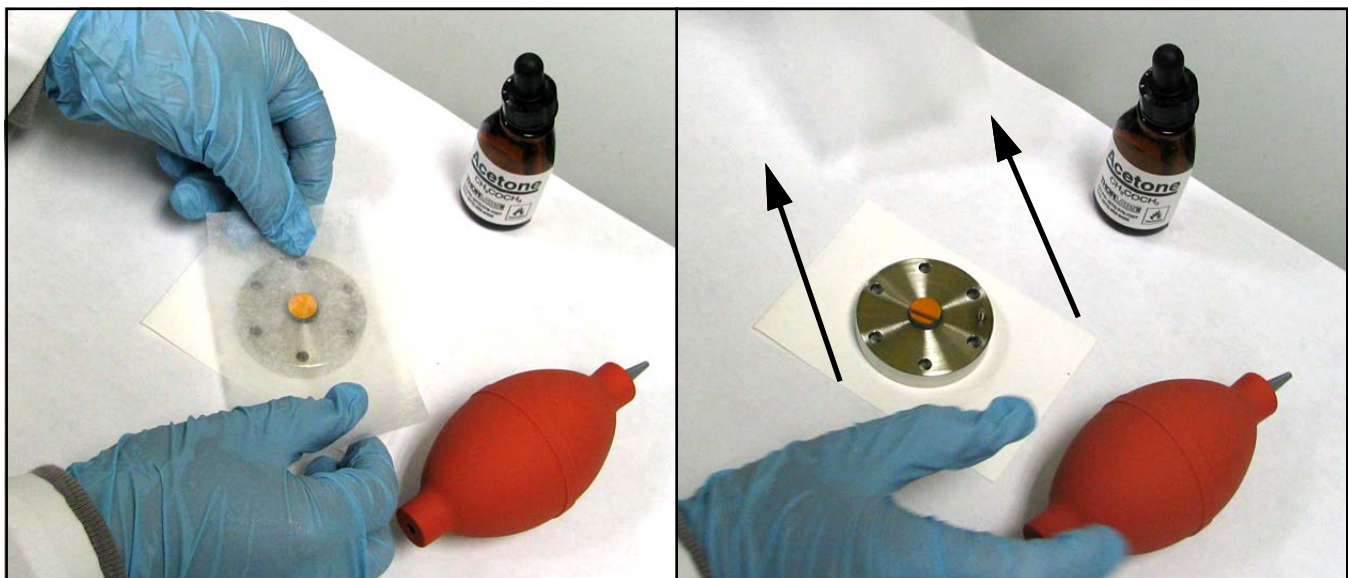

Figure 90: Dragging the Wet Lens Tissue Across the Mirror
5. Place the wet lens tissue on top of the mirror and drag it horizontally across the surface of the mirror (see *Figure 90* below), ensuring minimal liquid residue/streaks are left behind on the mirror surface.